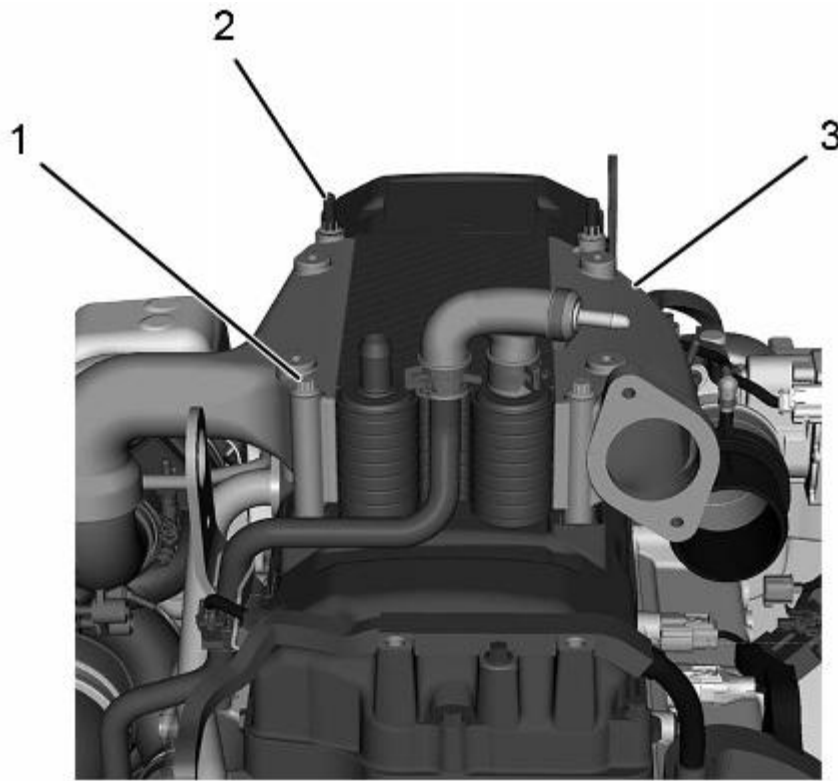

**Figure 5. Interstage Cooler (ISC).**
- 1. M8 x 110 bolt (2)
- 2. M8 x 110 stud bolt (2)
**14. Remove two bolts (Figure 5, Item 1) and stud bolts (Figure 5, Item 2) from Interstage Cooler (ISC) (Figure 5, Item 3).**